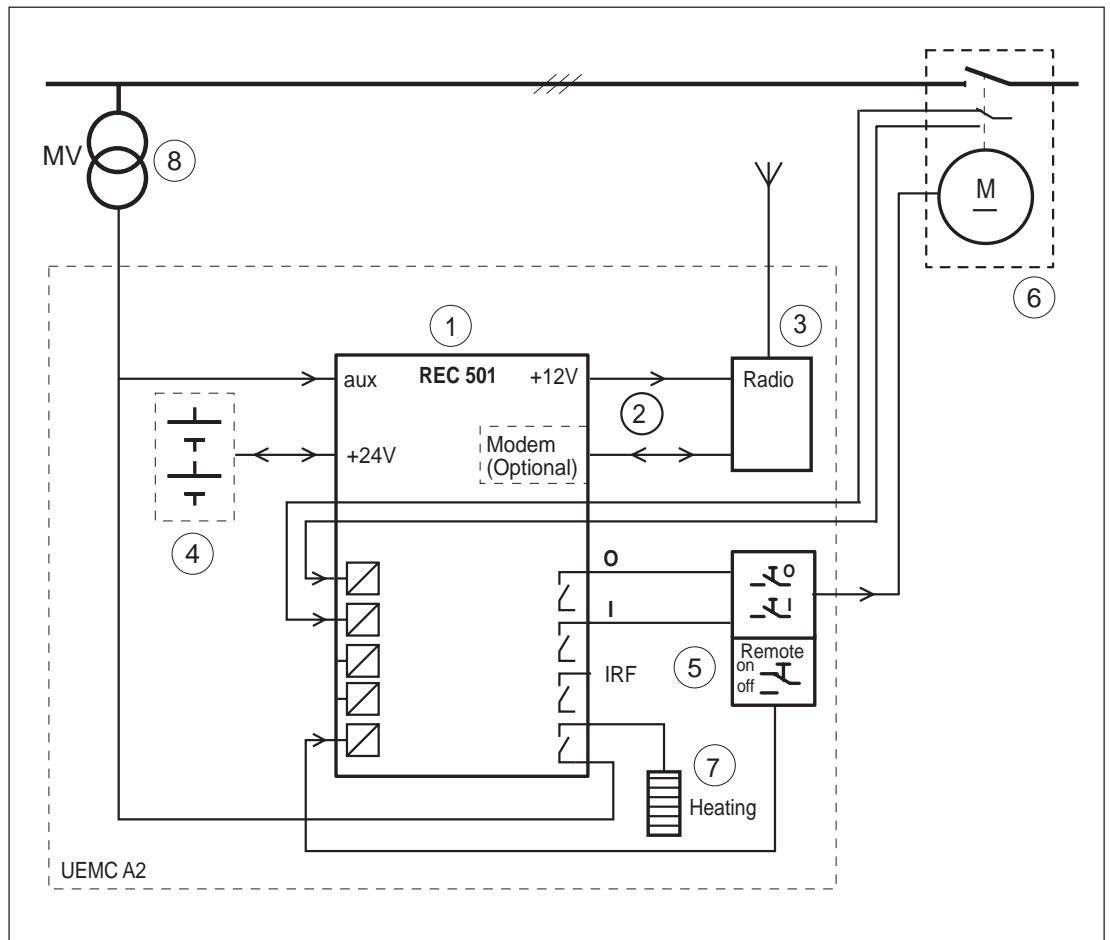

Fig. 2. A REC 501 unit used for remote control of a disconnector. The motor operating device is fitted to the disconnector.
Figure 2 shows an application in which the REC 501 unit controls and monitors a disconnector remotely. The disconnector has an integrated motor operating device. The enclosure can be mounted on a wall or in a pole. Local regulations should always be followed. The same components as in the previous example are used. In addition, a heating element (7) and a distribu-